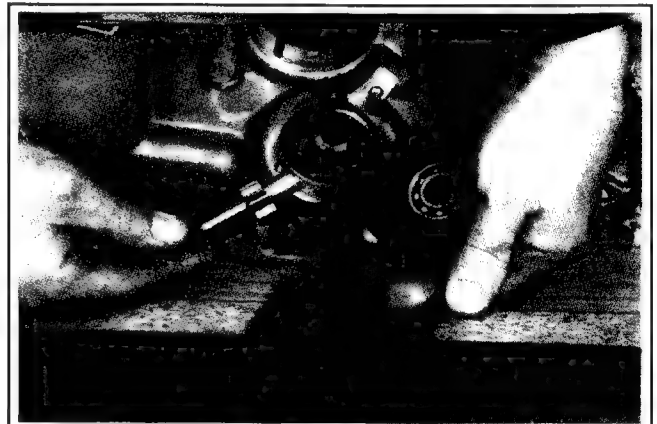

Figure 9-49. Oil Pump Ball Bearing, Wear Plate, Rotor, Shaft, and O-Ring.
5. Remove ball bearing, wear plate, oil pump shaft with rotor, outer rotor, and O-Ring in recess of crankcase. See Figure 9-49.